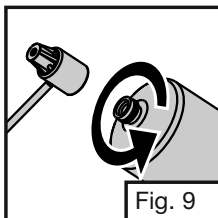

Fig. 9
9. Remove plastic cap from top of LPG bottle and screw LPG bottle into regulator hand tight. (Fig. 9)